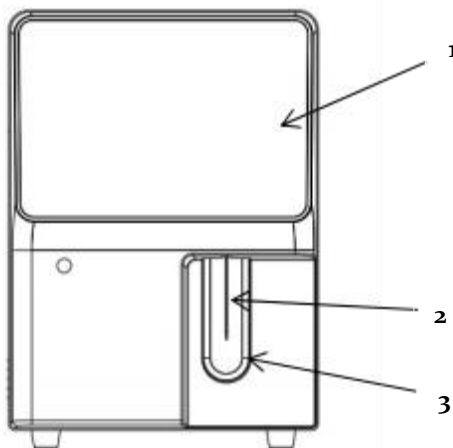

Figure 3-1 Front view of the analyzer
3. The aspirate key of the analyzer (see Figure 3-1 Front view of the analyzer) shall be wiped with alcohol (75%) regularly.